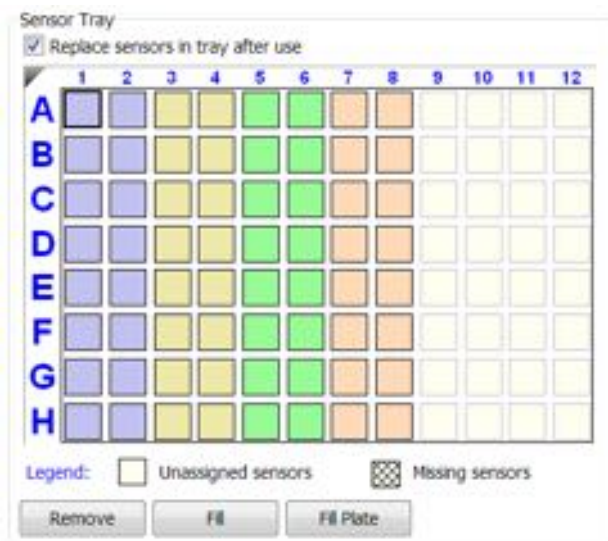

Figure 7-47: Replace Sensors in Tray After Use Check Box
5. Optional: After an assay is completed, the biosensors can be returned to the biosensor tray or ejected through the biosensor chute to an appropriate waste container. To return the biosensors to the tray, click the **Replace sensors in tray after use** check box (see Figure 7-47).
10. Optional: After an assay is completed, the biosensors can be returned to the biosensor tray or ejected through the biosensor chute to an appropriate waste container. To return the biosensors to the tray, click the **Replace sensors in tray after use** check box (see Figure 7-47).